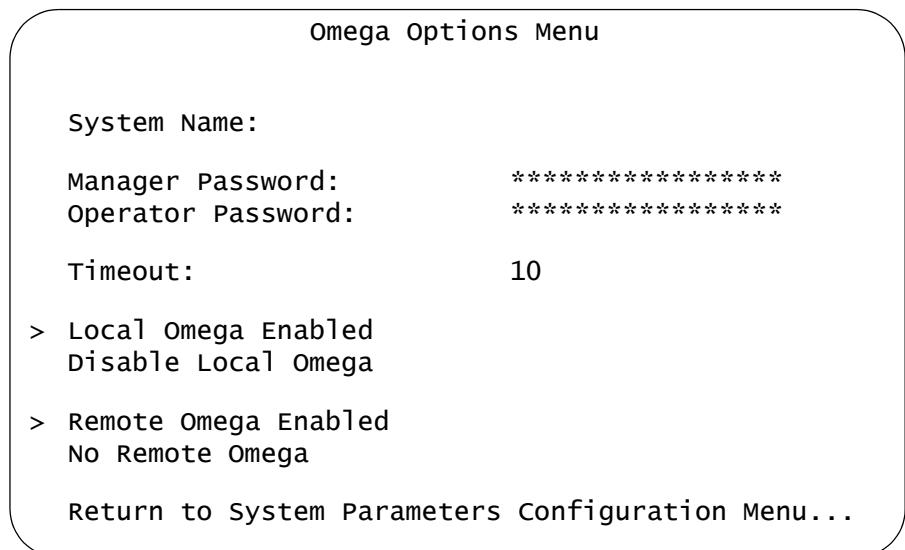

Figure 32. Omega Options Menu
4. Select **Omega Options** to display the menu in Figure 32.